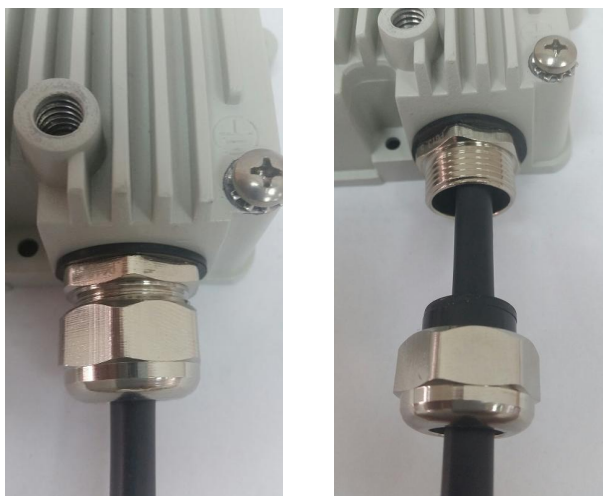

Figure 2-6: Cable connection to Outdoor Unit
- Insert the RJ-45 to the Outdoor Unit (Figure 2-6).